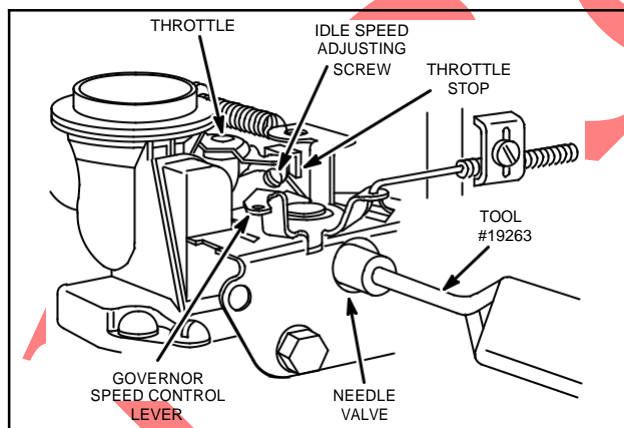

Fig. 174 – ADJUSTING CARBURETOR
**NOTE:** If carburetor is out of adjustment so that it will not start, close needle valve by turning it clockwise. Then open needle valve 1-1/2 turns counterclockwise using Tool #19263, Carburetor Adjusting Screwdriver, Fig. 174.